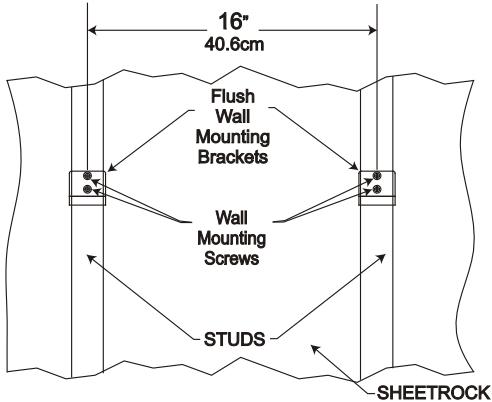

Figure 11
- Refer to figures 11 thru 16 to install the appropriate Wall Bracket on the wall (orient the bracket as illustrated) using the supplied Mounting Screws. If the Flush Mount Bracket is used, attach the two cone shaped rubber bumpers to the rear of the Loudspeaker, near the bottom.